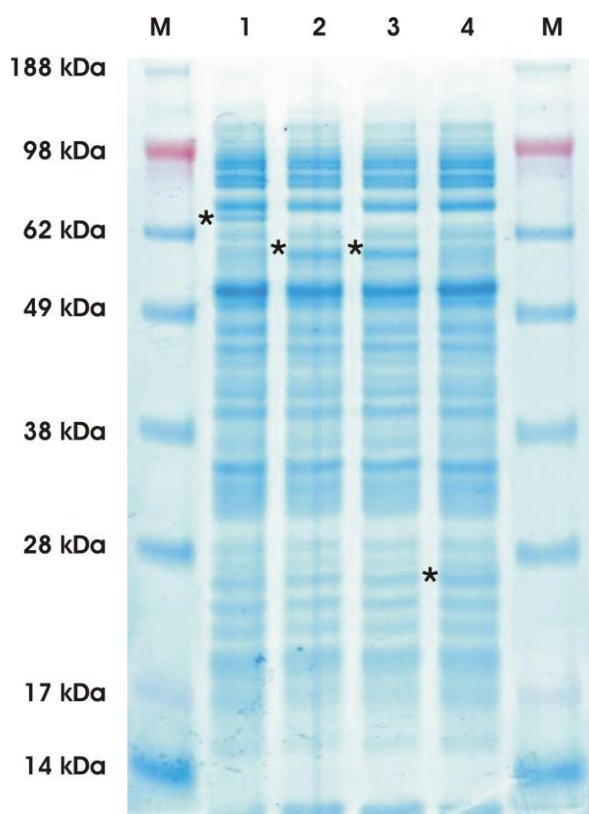

Figure 3. Yields and homogeneity of proteins obtained from vectors of different origin in RTS 100 Wheat Germ expression reactions.
A band with a molecular weight of 68 kDa should be visible after the gel is stained with Coomassie® Brilliant Blue (Figure 3, page 17)
6. Apply 1 µl of each reaction to a SDS-polyacrylamide gel. Run the gel and stain with Coomassie Brilliant Blue. A band with a molecular weight of approximately 68 kDa should be visible in the reaction with the GUS Control Vector (Figure 3, page 17), but not in the negative control reaction.